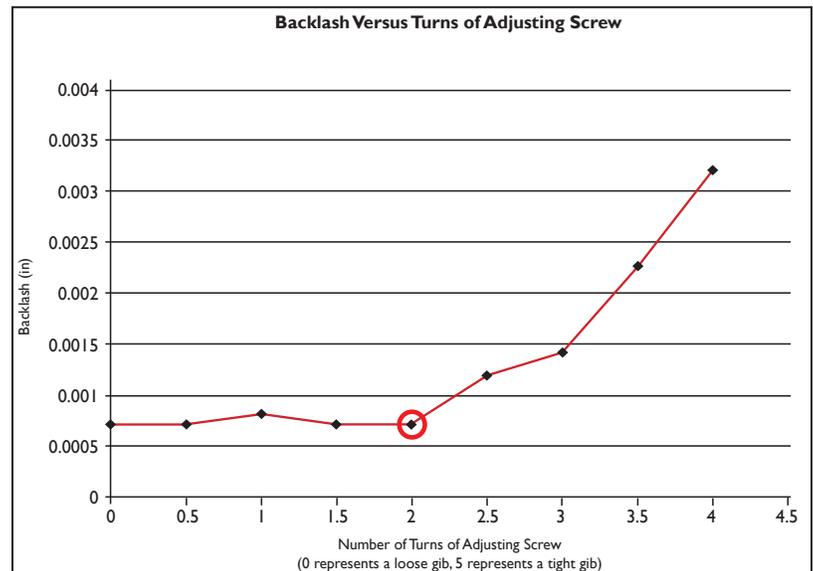

Figure 9.3
- Back the adjustment off to the point just before you saw the increased backlash. That is the ideal setting for the axis (see **Figure 9.3**).